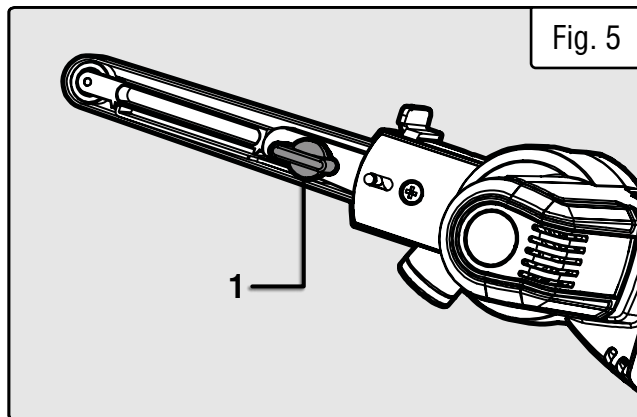

Fig. 5
1. Turn the belt tracking knob (Fig. 5 - 1) to align the sanding belt with the sanding arm. Turn the knob clockwise to move the belt to the right and counterclockwise to move the belt to the left.